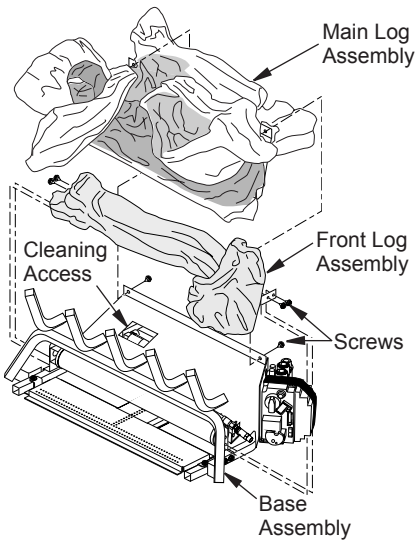

Figure 24 - Removing Front Log to Clean Front Burner
1. Remove two screws from back of unit that attach main log assembly to base assembly (see Figure 24).
2. Remove screws from left and right side of front log assembly to remove from base assembly (see Figure 24).
3. Inspect burner and primary air inlet holes on injector holder of each burner for dust and dirt (see Figures 24 and 25).